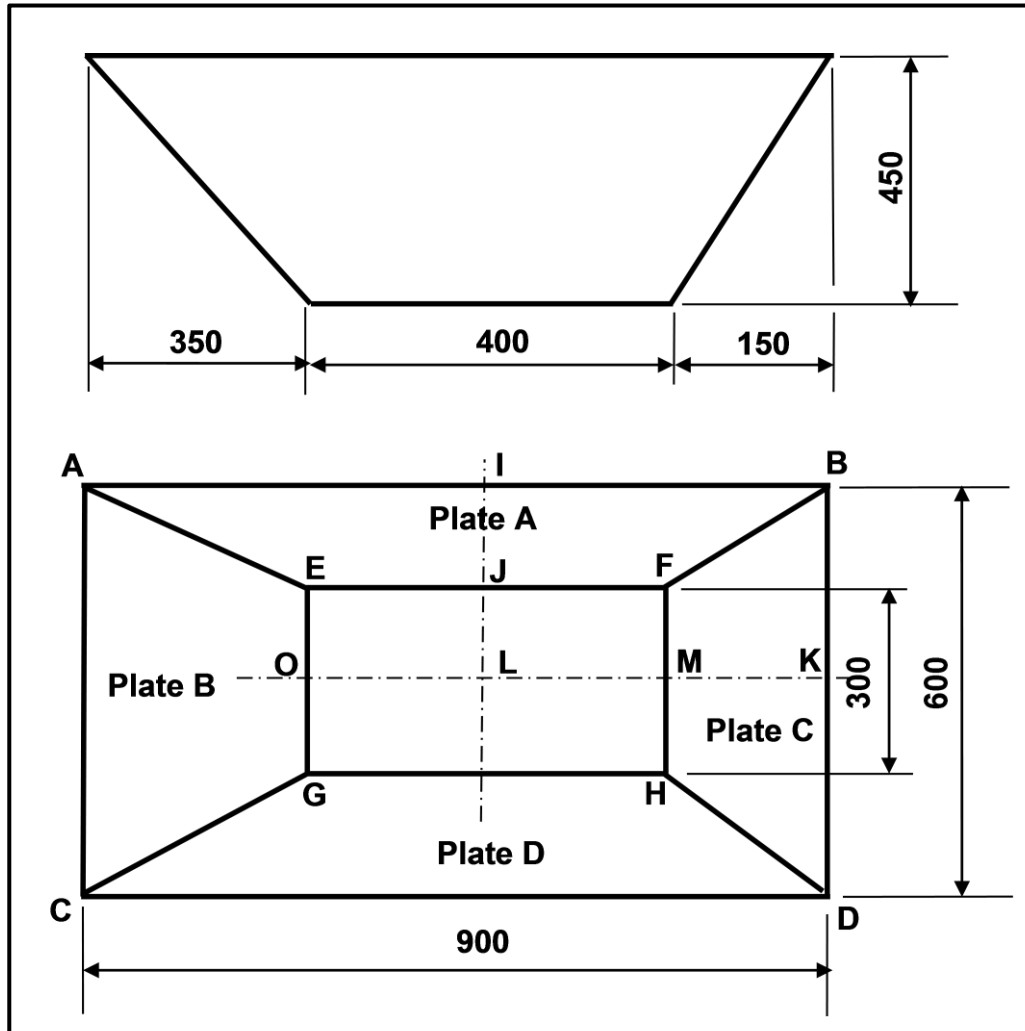

FIGURE 11.1
11.1 FIGURE 11.1 below shows an off-centre rectangular to rectangular hopper.